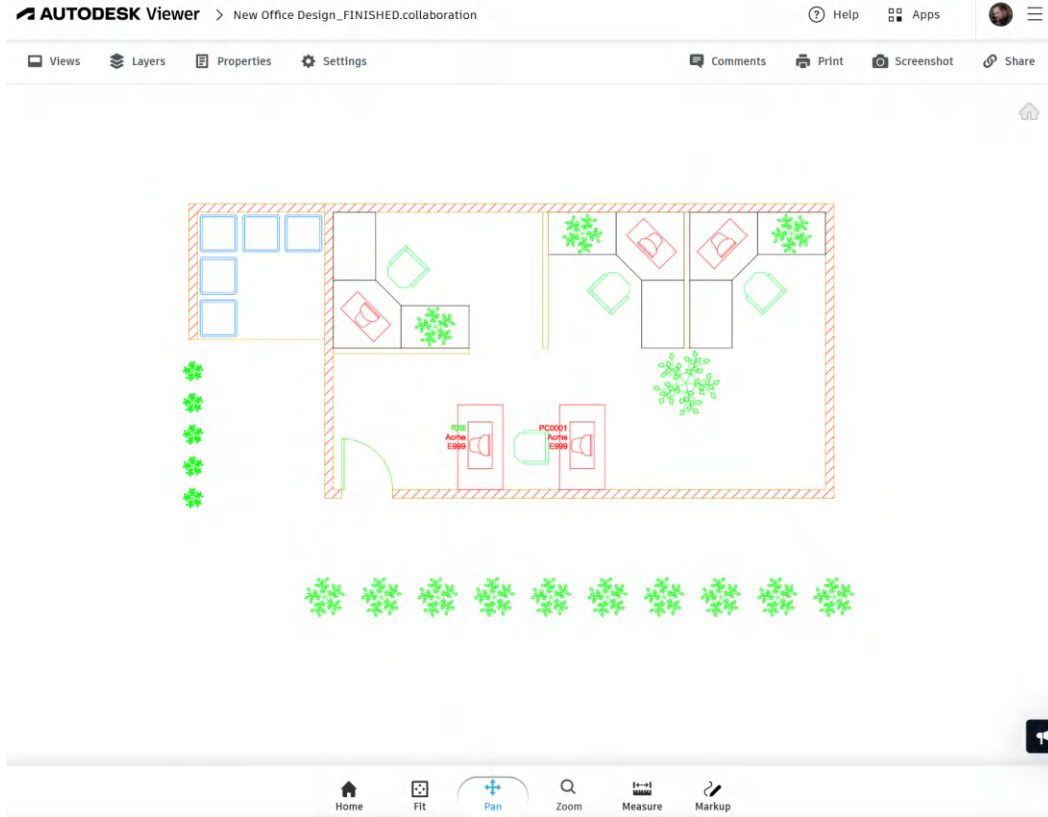

Figure 13.22: The shared view drawing displayed in the Autodesk Viewer
13. You have now opened your shared view drawing in the Autodesk Viewer. Note the file's name in the viewer, as shown in *Figure 13.22*. It is now `New Office Design_SHARED.collaboration`. Also, ensure you have signed in using your Autodesk account in the viewer to enable the full Autodesk Viewer functionality.